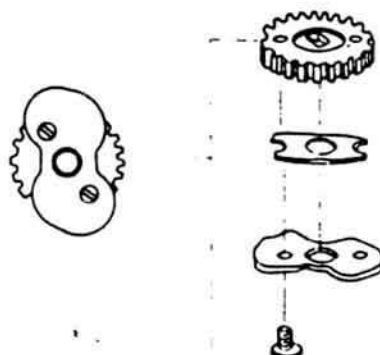

Fig. 8
1. Winding Gear Unit Install each part in the order shown in Fig. 8.